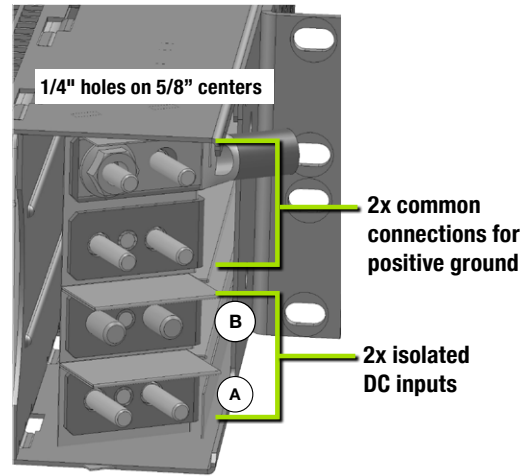

Figure 4 LPS36 A/B Input Power Connections
Both the front and rear input voltage positions have four (4) connections – two for Return, one for the A side of the shelf and one for the B side of the shelf. As noted in Chapter 5, the A feed powers the modules on the left side of the shelf (slots 1-6 for the 23" shelf, slots 1-5 for the 19" shelf) and the B feed powers the modules on the right side of the shelf (slots 7-12 for the 23" shelf, slots 6-9 for the 19" shelf). Each connection accepts a two-hole lug and is designed for 1/4" holes on 5/8" centers. See Figure 4 for a close-up view of the connections.